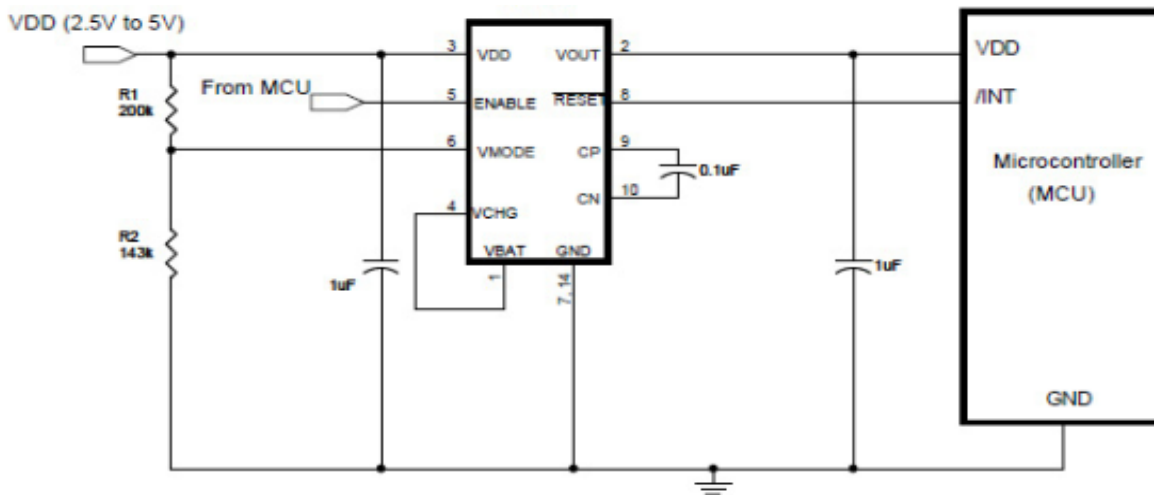
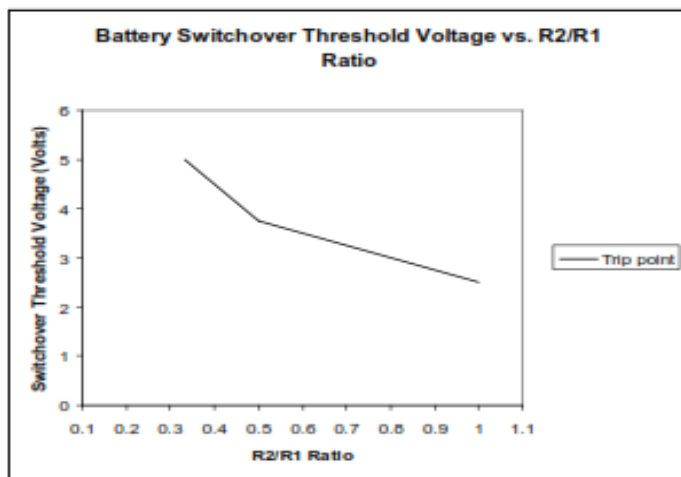
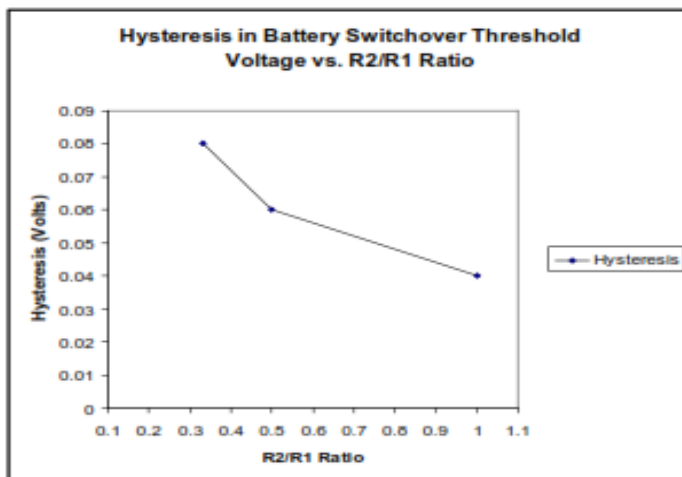

Figure 7: CCBC3150 Typical Circuit for Mode 2 Operation
Figure 8. Mode 2 Resistor Selection Graph
Figure 9. Mode 2 Hysteresis as a Function of R2/R1
(2) Users- selectable trip voltage can be set by placing a resistor divider from the V_{MODE} pin to GND. Refer to Figure 8.
(3) The hysteresis is a function of trip level in Mode 2. Refer to Figure 9.
Figure 7 shows the circuitry for user-selectable switchover threshold to a value between 2.5 and 5.0 volts. Use Figure 8 to determine the value of R1. To determine the amount of hysteresis from the EnerChip™ switchover threshold, use Figure 9.
EnerChip™ charging and backup power switchover threshold for 2.5 to 5.5 volt operation is selected by changing the value of R2 (see Figure 7). To determine the backup switchover point, set the value of R1 to 200kΩ and choose the value of R2 according to Figure 8. For example, to set a 3.0V trip point: If $R1 = 200\text{ k}\Omega$ then $R2 = R1 \times 0.72 = 144\text{ k}\Omega$. Figure 7 shows a Mode 2 circuit with standard value resistors of 200kΩ and 143kΩ.
To determine the backup switchover hysteresis for Mode 2 operation, use Figure 9.